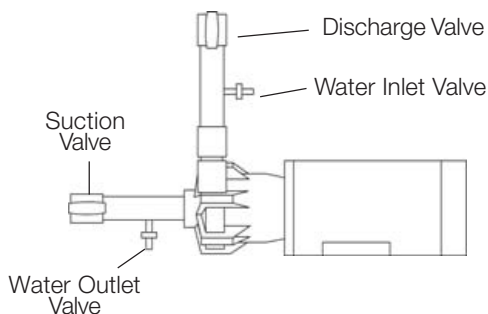

Figure 1
10. When pumping liquids that may solidify or crystallize, a flush system should be added to the piping. See Figure 1. Install water inlet and outlet valves as shown.
**CAUTION:** To stop the pump if prime is lost, use one of the following: (1) pressure switch on the discharge, (2) vacuum switch on the suction, (3) a power monitor to monitor pump motor power.